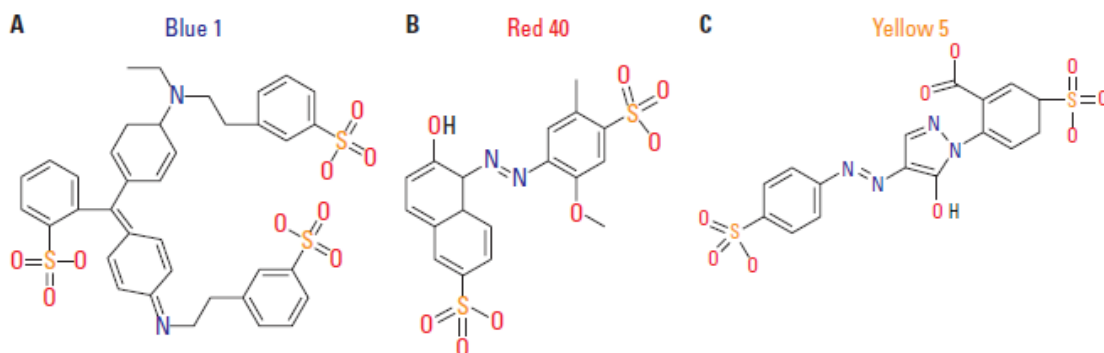
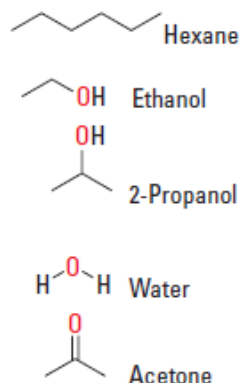

Figure 2. Molecular structure of food dyes
Figure 3. Molecular structure of typical solvents
1. You will design an experiment that tests the solvents (from Figure 3 above) that you believe will provide the best separation of the food dyes (from Figure 2) in the mixture of food dyes.